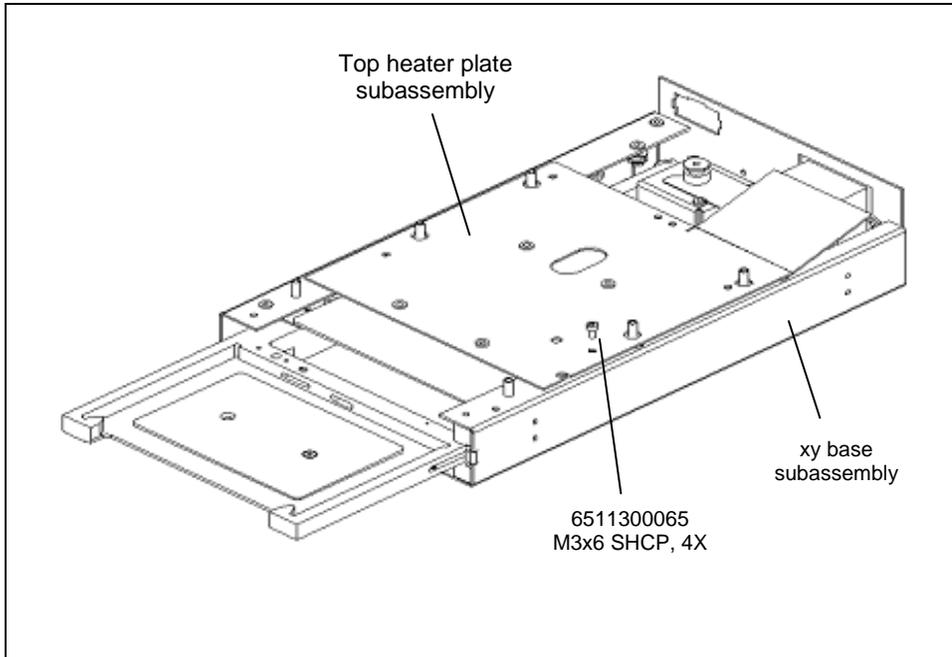

Figure 9-9 Top Heater Plate Assembly
The Top Heater Plate Assembly is mounted to the Base Assembly as shown in Figure 9-9.
Remove the Top heater plate assembly by unscrewing the 4 M3 x 6mm socket head cap screws as shown in Figure 9-9.
- 3 Place the assembly in position and tighten the screws (Figure 9-9).